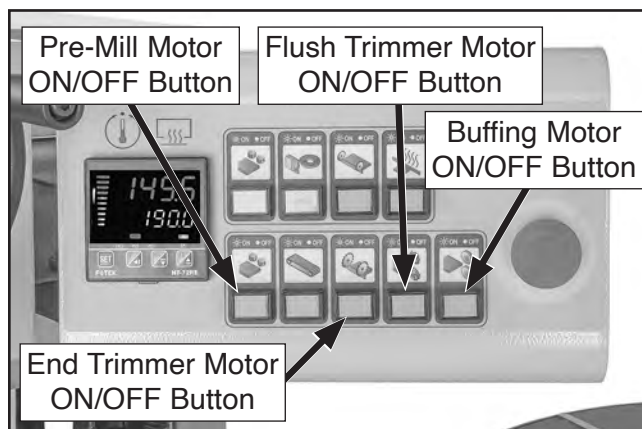

Figure 40. Location of pre-mill, end trimmer, flush trimmer, and buffing motor ON/OFF buttons.
11. Press pre-mill motor ON/OFF button (see **Figure 40**); button will illuminate and motor will turn **ON**. Motor should run smoothly without any unusual problems or noises. Press button again; button will darken and motor will turn **OFF**.